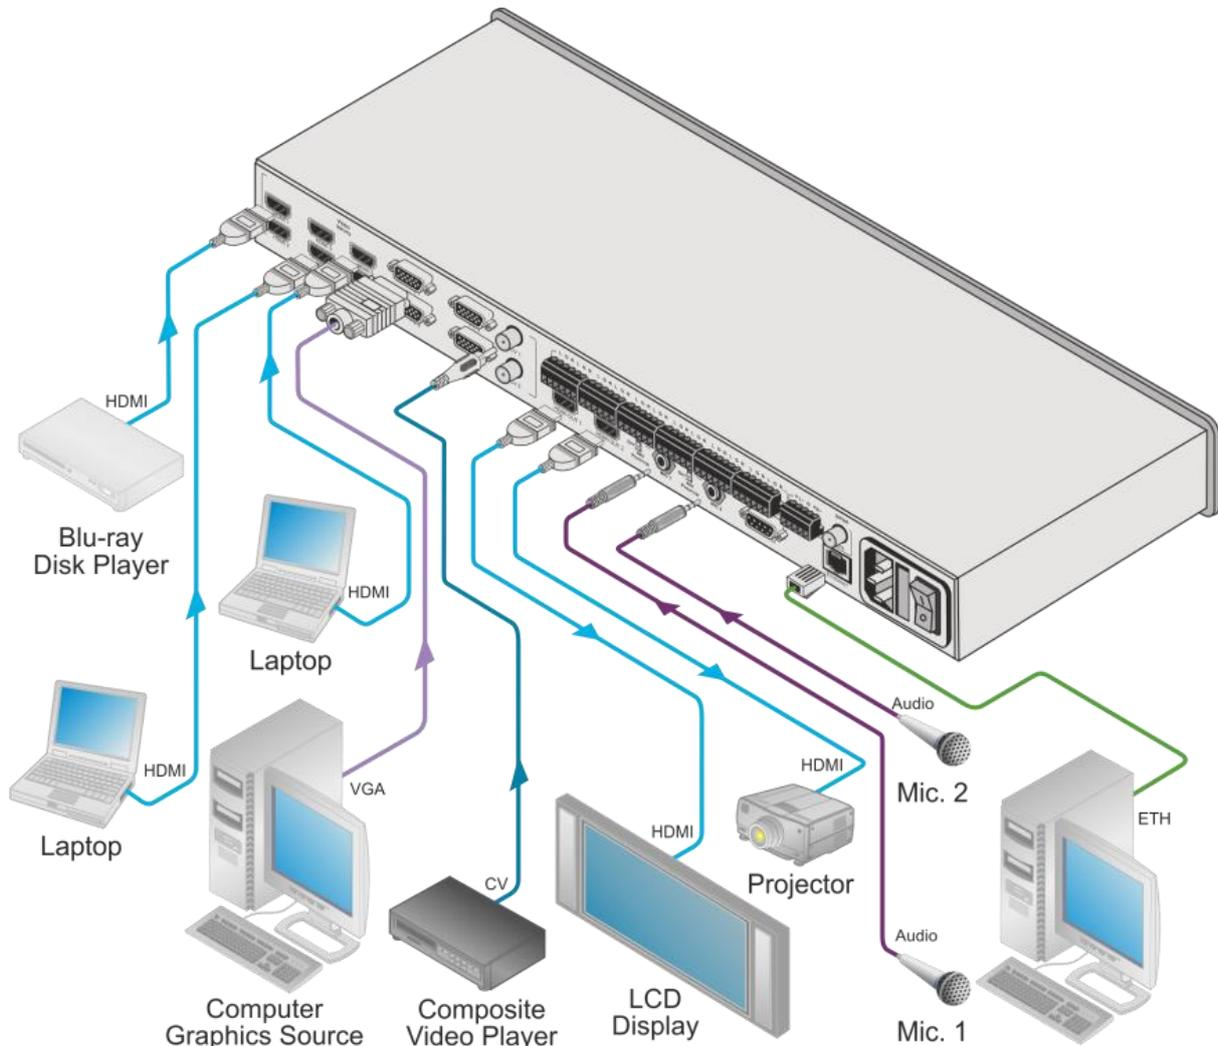

Figure 3: Connecting the VP-445 Presentation Switcher / Scaler
To connect the VP-445, as illustrated in the example in Figure 3, do the following:
4. Connect the audio input signals to the AUDIO IN terminal block connectors, as required (not shown in Figure 3).
7. Connect the audio output signals to the OUT stereo analog audio acceptor and/or the digital audio acceptor, as required (not shown in Figure 3).
8. Connect the power cord (not shown in Figure 3).